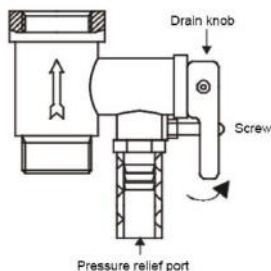

Fig 8
6. In order to drain water from the internal reservoir, use the safety valve: unscrew the screw of the safety valve drain handle and move the drain handle to the upper position, while the hot water outlet valve must be open, and the cold water supply valve to the water heater must be closed (see figure 8). Water will flow from the pressure relief hole of the safety valve.